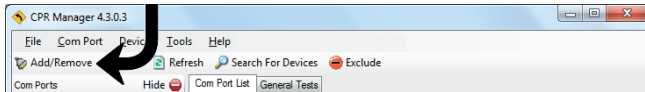

Fig. 83
5. In the "CPR Manager" program, click on the item "Add / Remove". See Fig. 83.